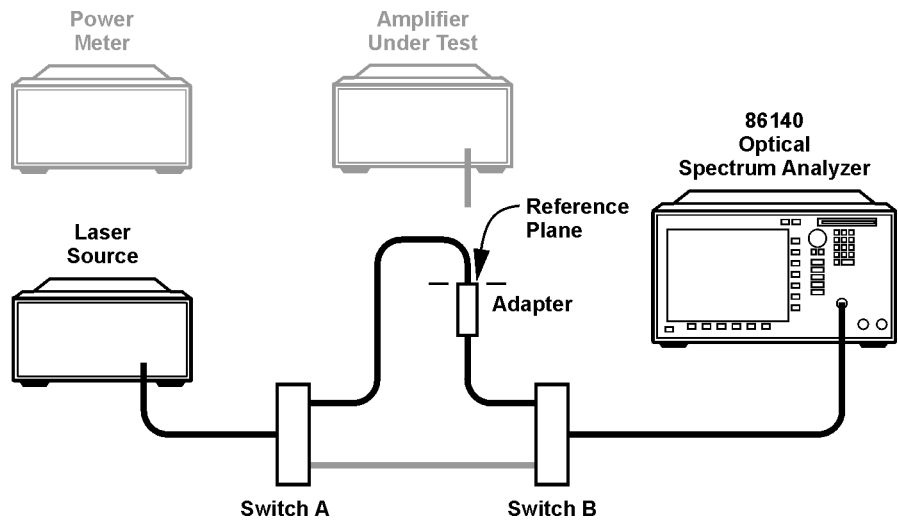

Figure 1-5. Amplifier Path Measurement
- 3** Connect the source output and receiver input fibers through the switches as in Figure 1-5. Set Switch A and Switch B to the amplifier channel position.